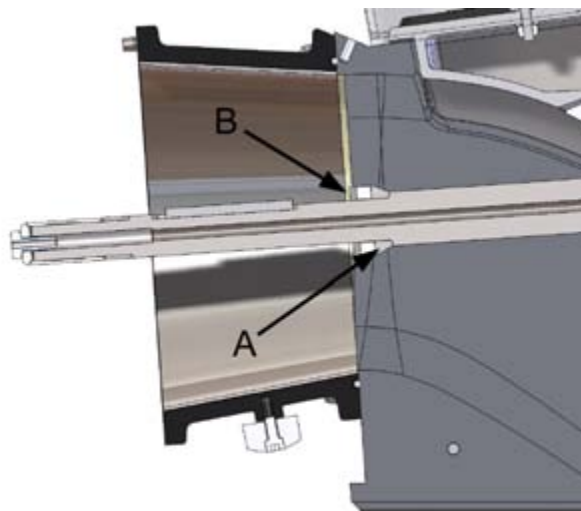

Figure 48. Adjuster sleeve
The thrust caused by the impeller is transmitted through the adjuster sleeve to the shaft (figure 48, point A). The sleeve consists of rings of different thickness. The length of the sleeve can be adjusted in 0.5 mm (approx. 0.02") increments by changing the number of the rings. This way the impeller gap on the outer race becomes fit.
3. Push the sleeve and the plastic insulating ring (figure 48, point B) on to the shaft. The insulating ring sits against the impeller.